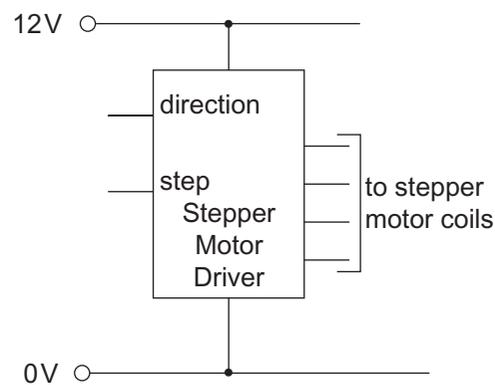

Fig. 2(c)
- (i) State the function of the **step** input on the stepper motor driver shown in **Fig. 2(c)**. [1]